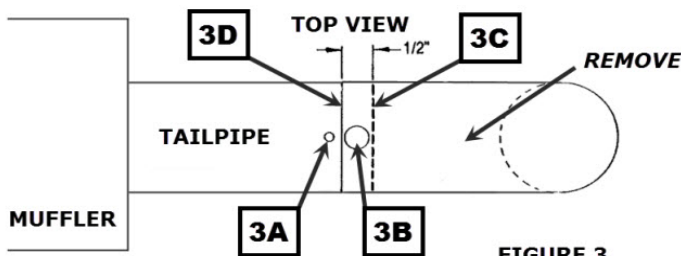

FIGURE 3
1. USING A 4MM (5/32") DRILL BIT DRILL THE CENTER OUT OF THE TWO RIVETS (3A) ON THE TOP AND BOTTOM OF BOTH MUFFLERS. (SEE FIGURE 3)
2. MEASURING FROM THE SEAM (3D) IN THE SMALL TAILPIPE MARK A LINE (3C) 13MM (1/2") ALL THE WAY AROUND THE PIPE. (SEE FIGURE 3)